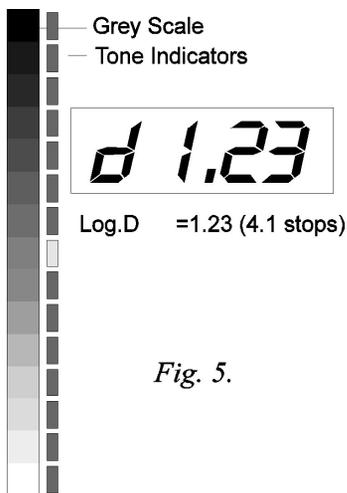

Fig. 5.
Position the sensor in a highlight (dense negative) part of the image and press and release the **Measure** button. After a longer delay (allowing the light sensor to react to the lower light level), the measured density range in logarithmic units is shown temporarily (Fig.5) followed by the new exposure time and two print tone indications as shown in Fig.6. Adjust the paper grade setting as follows:
2. The LED representing the most recent measurement will flash briefly to assist identification. During this period, the display shows the relative density of the negative as a log.D figure (refer to Fig.5). The density measurements are always relative to the brightest measurement so for them to be useful ensure that you meter the brightest negative area (deepest print shadow) first.